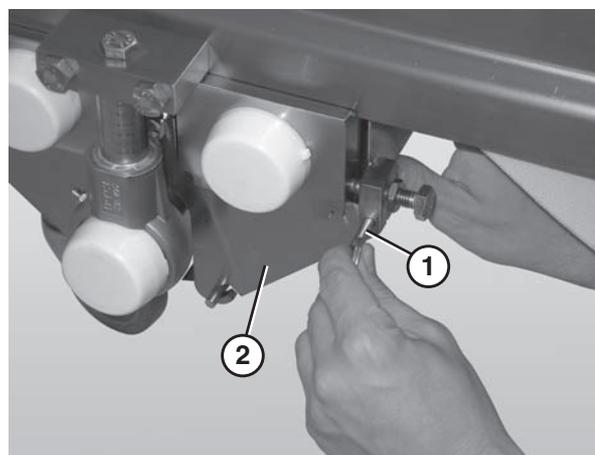

Figure 15
2. Remove the 2 pull pins (**Figure 15, item 1**) from the center drive side plate (**Figure 15, item 2**).
- Insert the pull pins (Figure 15, item 1).